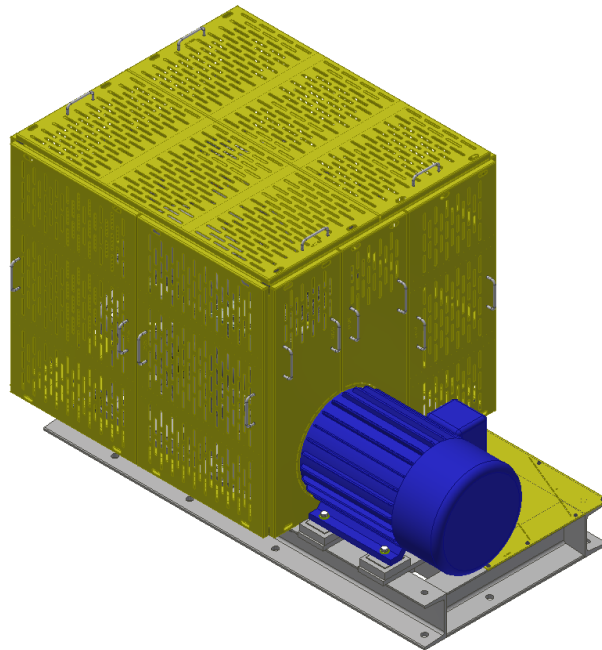

Figure 33: Machine Guard Side Panel Installation
- Attach Machine Guard Side Panel(s) (p/n \_ \_-235) and tighten #10-24 screws as shown below (Figure 33).